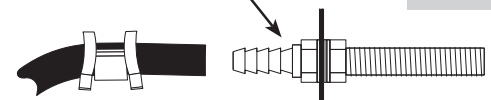

fig. 9
10. Slide the air line clamp over the air line. Push the air line onto the fitting covering all barbs. Using pliers, slide the air line clamp forward until it fully covers the barbed section (fig. 9).
9. Slide a clamp onto the air line and push the air line over the fitting, covering all the barbs. With pliers slide the air line clamp forward until it fully covers the barbed section (see fig. 9).